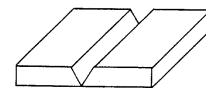

Figure 2.1
1. Lower the helmet. Before striking an arc, tell persons in the area to cover themselves. Tack weld two pieces of mild steel together to form a butt joint. If the metal is thicker than 1/8 inch, the edges of the joint should be beveled to increase penetration. A space of no more than 1/8 inch should be left between the metal plates to increase penetration of the weld. (See Figure 2.1.)
2. Position the metal so that the joint to be welded is in the flat position. (See Figure 2.1.)